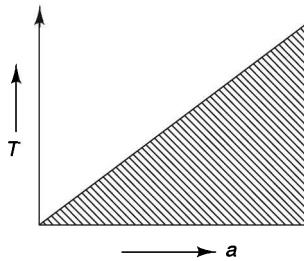

FIGURE 17.6 Torque (T) vs twist angle (θ).
Strain energy in torsion in a solid shaft depends upon work done by the applied torque (T). As applied torque (T) increases, the first angle (θ) increases (Figure 17.6). The work done by the torque is equal to the product of torque (since torque is applied gradually from zero to T its value is taken as $T/2$) and the twist angle (θ) which is stored in the shaft as strain energy.